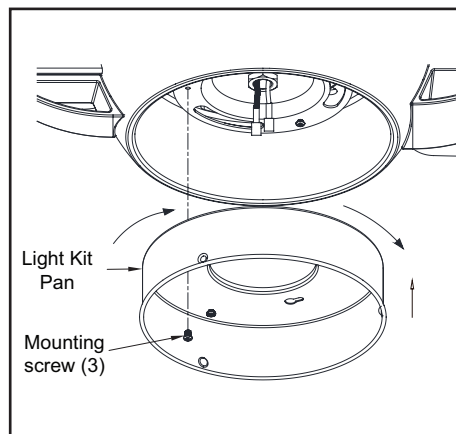

Figure 14
1. Loosen but do not remove two of three mounting screws from the fan motor assembly; Remove one mounting screw. (Figure 14)
2. Push the light kit pan up to the fan motor assembly so that the two loosened screw heads fit into the keyhole slots. Turn the light kit pan clockwise, tighten the screws. Re-install the screw that was removed in step 1 and tighten firmly. (Figure 14)